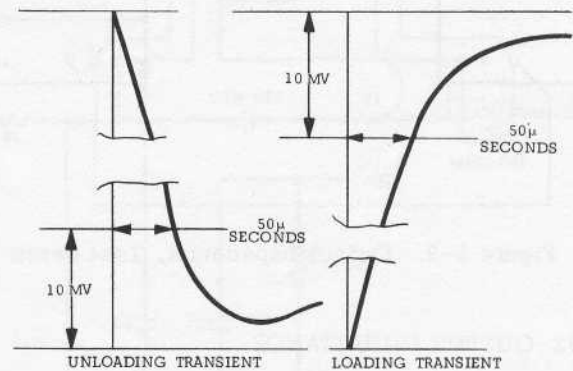

Figure 5-8. Transient Response, Waveforms
- Adjust 25K potentiometer until a stable display is obtained on oscilloscope. Waveform should be within the tolerances shown in Figure 5-8 (output should return to within 10 mv of original value in less than 50 microseconds).